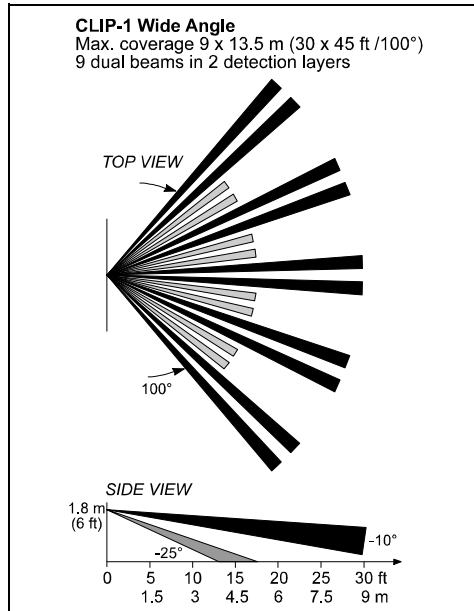

Fig. 2. The CLIP-1 Coverage Pattern
Detailed specifications of the lenses employed in each model and mounting alternatives are given in Figures 2 through 9 below.
**Lens Characteristics:** See Figures 2 through 9.